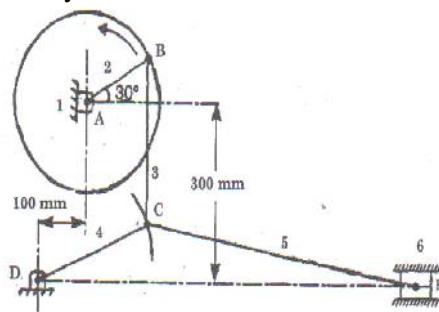

Fig.1
3. Locate all the instantaneous center of the mechanism as shown in figure 1 shown below. The lengths of various links are: AB = 150mm; BC = 300mm; CD = 225mm; and CE = 500mm. When the crank AB rotates in anticlockwise direction at uniform speed of 240rpm, find (i) Velocity of Slider E, and (ii) Angular Velocity of the links BC and CE. [APRIL2015]